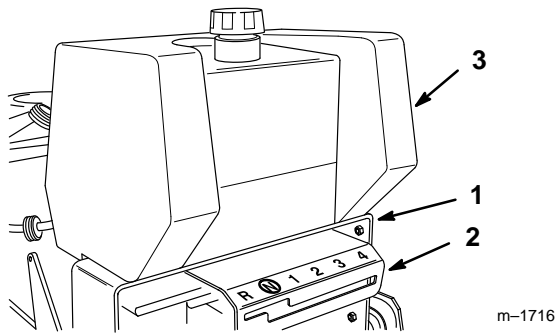

Figure 2
1. Slide control panel over shift lever and under bottom of rear frame (Fig. 2). Align fuel tank to top of rear frame (Fig. 2).